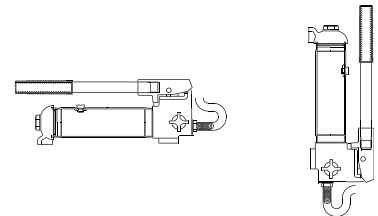

Figure 3 - Variable Position
1. Pump may be used in horizontal or vertical position as illustrated (ref. Figure 3).